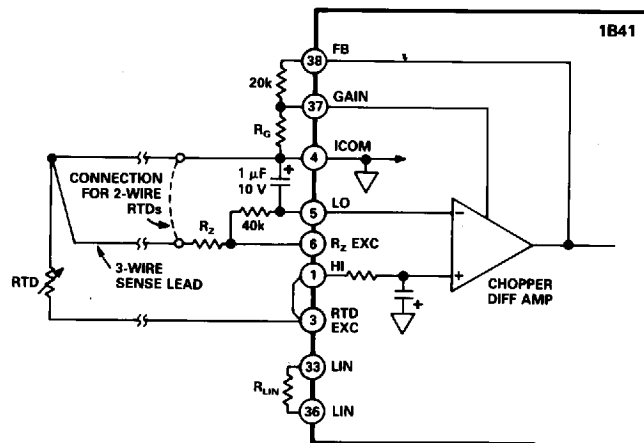

Figure 1. 1B41 Basic Hookup
1All specifications use the test circuit of Figure 1.
**Range Setting:** The gain of the 1B41 is controlled on the input side by a pair of user provided resistors (see Figure 1). A feedback resistor of  $20\text{ k}\Omega \pm 1\%$  is required between the feedback pin (Pin 38) and the gain pin (Pin 37). The gain setting resistor is connected between the gain pin (Pin 37) and input side common (Pin 4).
For 2-wire RTDs, ICOM (Pin 4) can be connected as shown in Figure 1. This does not compensate for lead wire resistance.